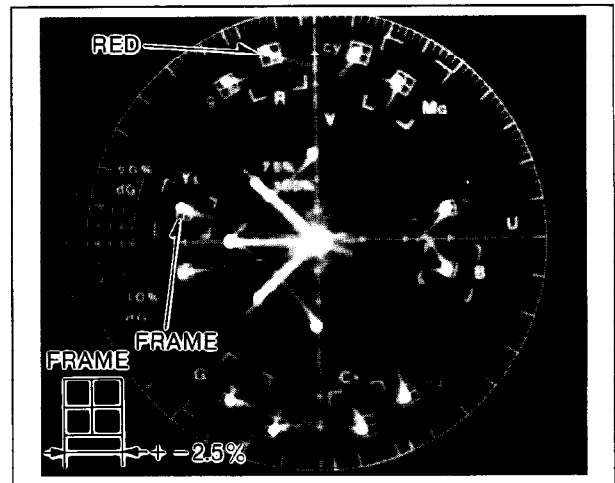

Fig. E28
4. Turn on the TBC SW and adjust VR9003 so that the red vector comes  $\pm 3^\circ$  compare with TBC SW off condition as shown in Fig.E28.